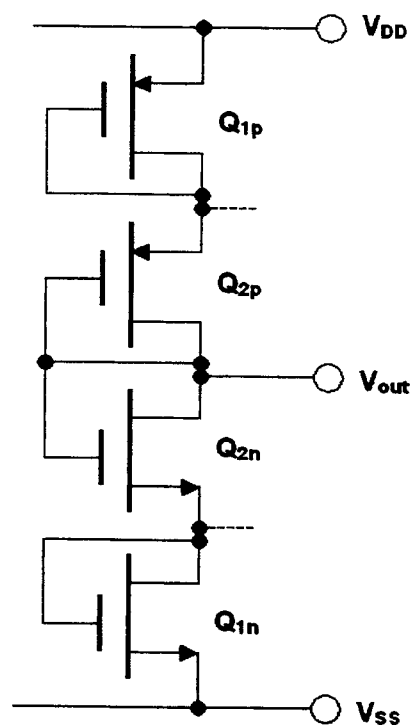

Figure 2.3
- (d) Explain qualitatively why the four-transistor voltage potential divider of Figure 2.3 can have significantly less active-chip area than an equivalent two-transistor voltage potential divider with the same power consumption. [4]